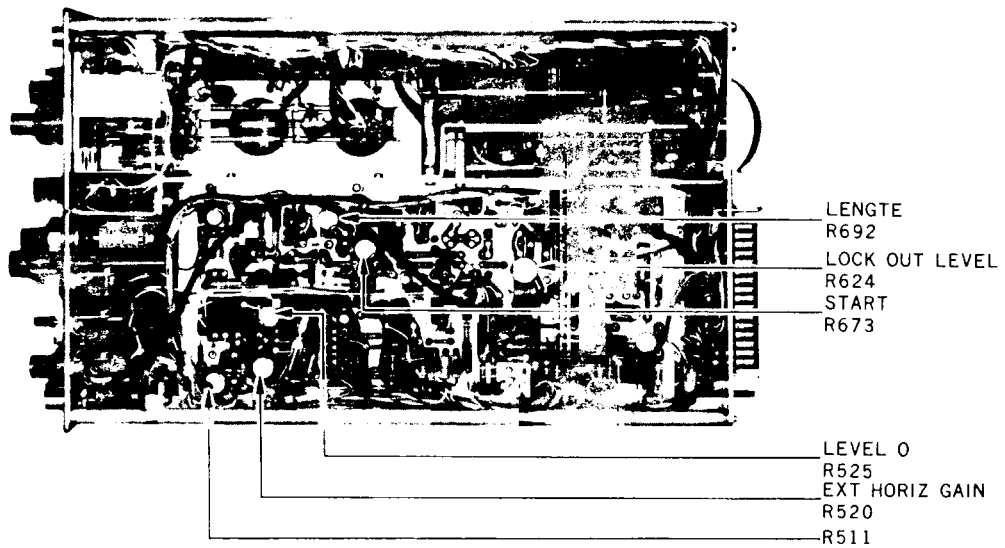

Figure 4-12 Plug-In Unit Top View
Adjust R525 (see Figure 4-12) so that the sweep is symmetrical for both + and - settings of the SLOPE (B) switch.
(1) Delay Time Calibration. Connect the output of the Time Mark Generator to the Channel 1 input. Set controls as follows:
Adjust R673 (Figure 4-12) so that the start of A and B is the same.